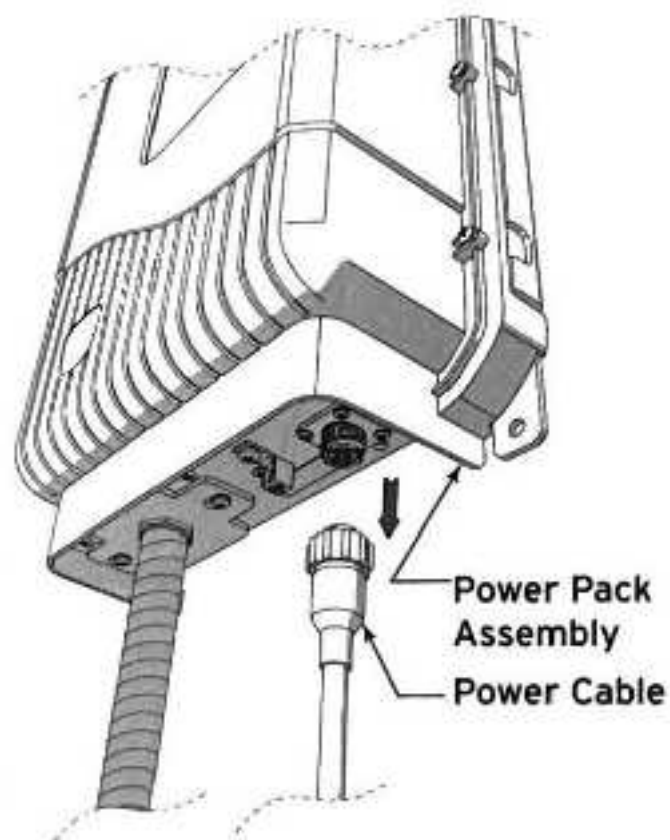

Figure 3. Disconnect Power
5. Disconnect the power cable from the power pack. See Figure 3.